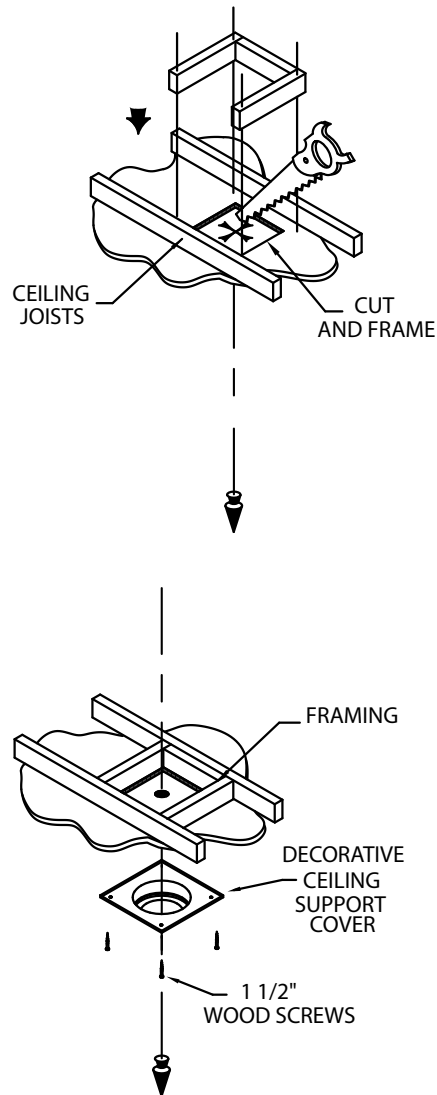

Figure 14
Step 3. To install the Round Ceiling Support/Wall Thimble Cover in a flat ceiling, refer to **Table 1, page 8** and cut a square hole in the ceiling (unless otherwise specified by the appliance manufacturer) centered on the hole drilled in Step 2. Frame the hole as shown **(Fig. 14)**.